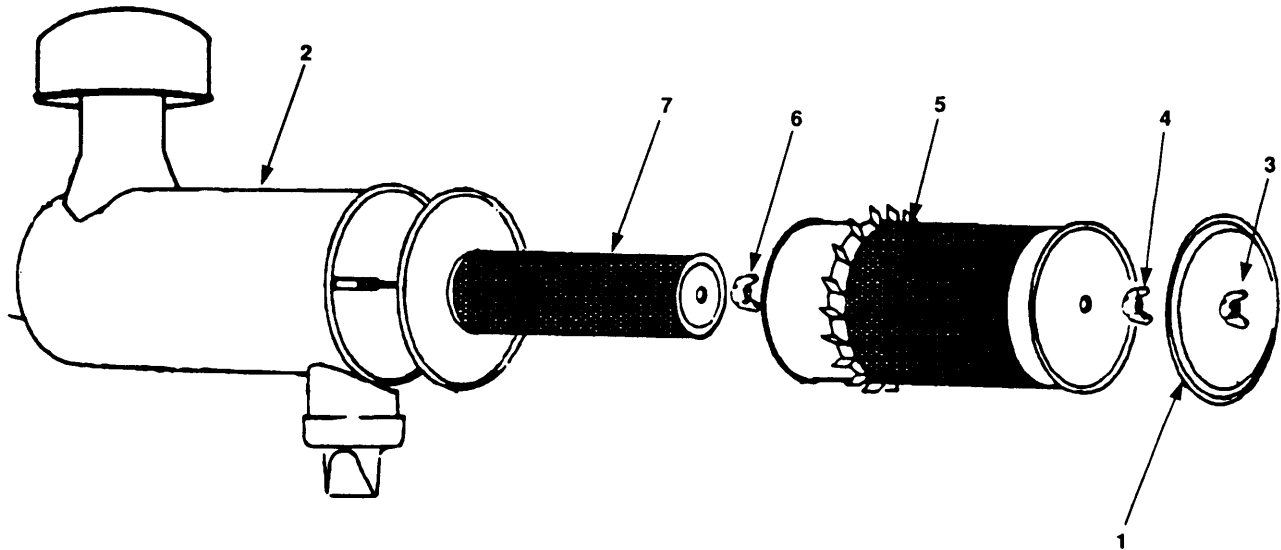

Figure 4-9. Air Cleaner Disassembly.
- a. Remove cover (figure 4-9, 1) from air cleaner housing (2) by turning wing nut (3).
- b. Remove wing nut (4) that secures primary filter (5).
- c. Remove primary filter (5) from air cleaner housing (2).
- d. Remove wing nut (6) from air cleaner housing (2) that secures secondary filter (7).
- e. Remove secondary filter (7) from air cleaner housing (2).